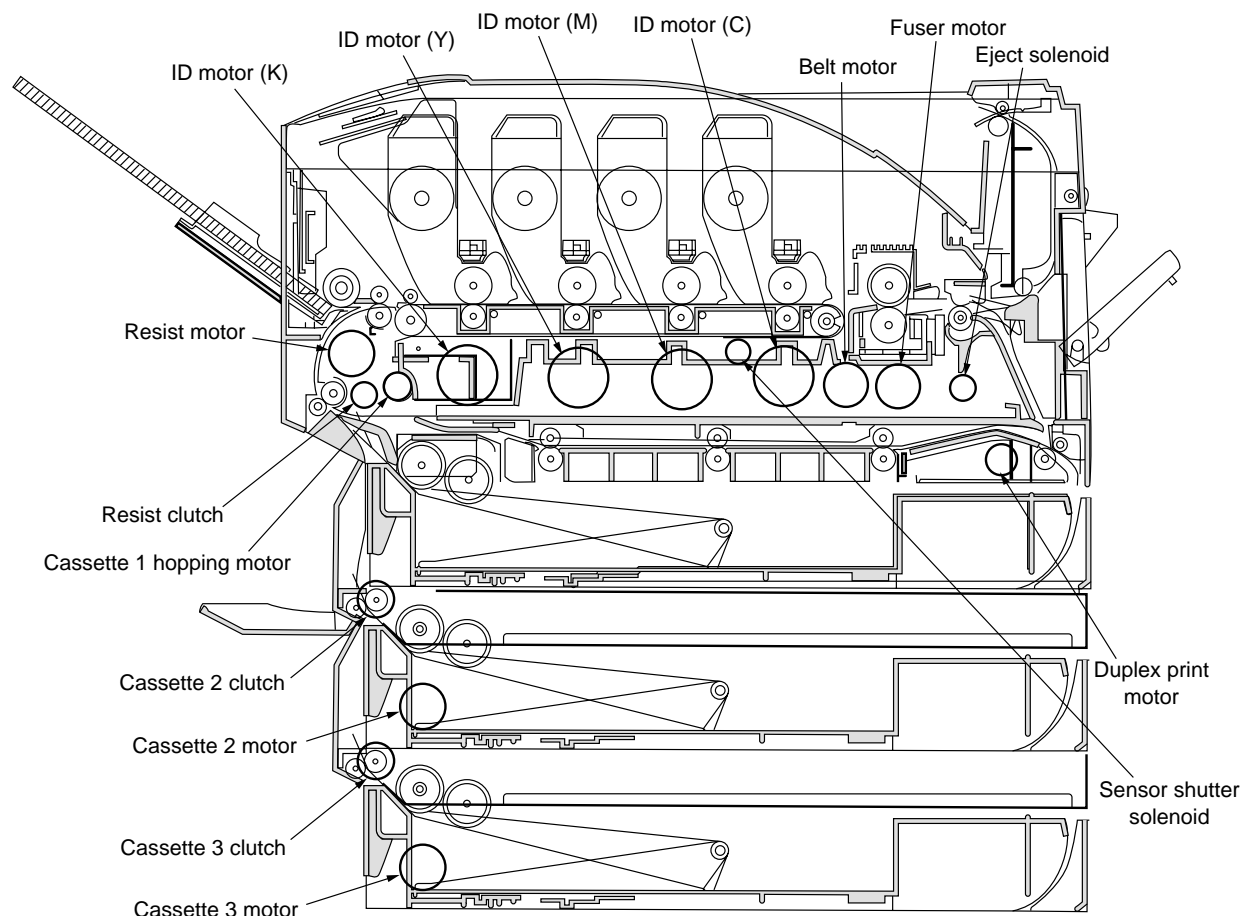

Figure 4-3
3. The test starts by pressing the ③ key. The name of the unit begins to blink and the corresponding unit drives for 10 seconds. (See Fig 4-3.)
4. A driving unit is stopped by pressing the ⑦ key. (The display of the corresponding unit is maintained.)
6. Press the ④ key to end the test. (Status returns to that described in 1.)